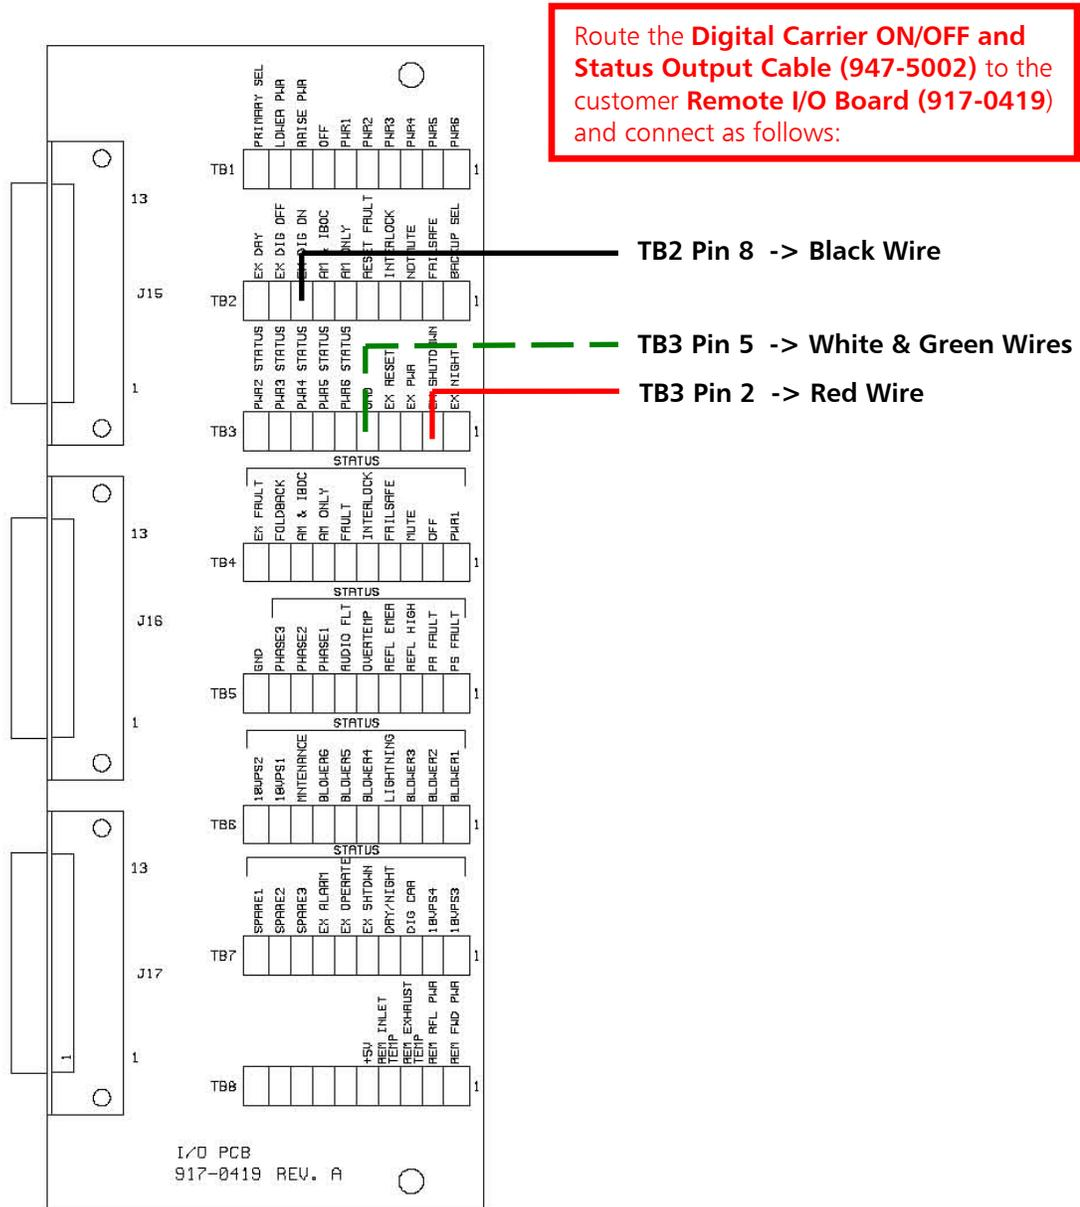

Figure 41 – Digital Carrier ON/OFF and Status Output Cable (947-5002) Connections
Step 6 – Connect the **Digital Carrier ON/OFF and Status Output Cable (947-5002)** identified in Section 7.1 as Item 11) to the ASi 10 and route down through the top right front corner of the 4MX Cabinet to the Remote I/O Connection Cavity of the Transmitter. Route and connect the Cable to the 4MX as shown in **Figure 41** below.